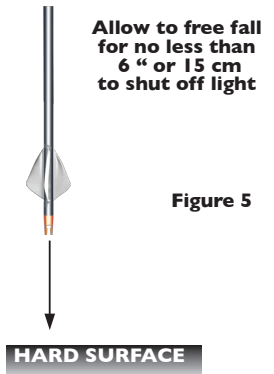

Figure 5
- d. Drop the arrow, nock first. (Fig. 5)